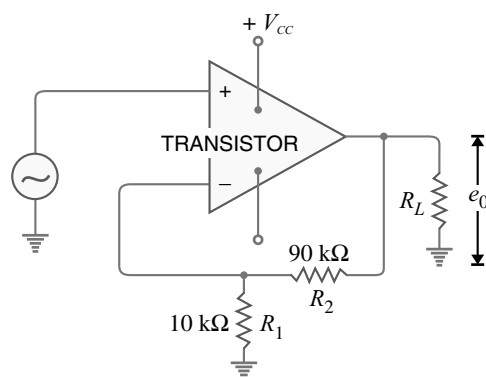

Fig. 11.16
**Example 11.14.** Fig. 11.16 shows the circuit of a negative voltage feedback amplifier. If without feedback,  $A_v = 10,000$ ,  $Z_{in} = 10 \text{ k}\Omega$ ,  $Z_{out} = 100 \Omega$ , find :